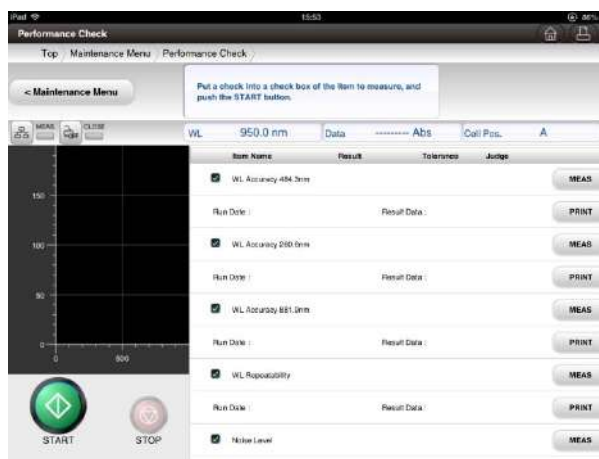

Fig. 6-2 Instrument Performance Check Screen
- (2) The Instrument Performance Check screen (Fig. 6-2) is displayed.